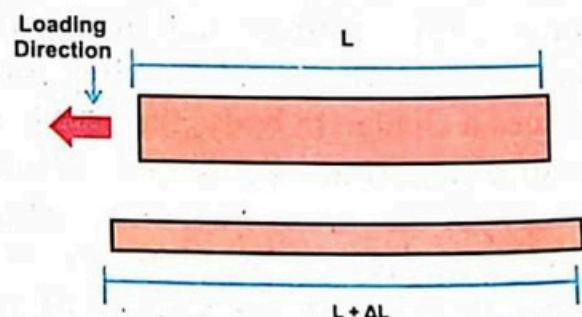

Fig.16.7(a) Longitudinal strain
If a change occurs in the length of body then the ratio of change in length ( $\Delta L$ ) to the original length (L) is called longitudinal strain, it is caused by longitudinal stress (tensile stress/compressive stress) as shown in Fig.16.7(a), thus
Similarly, the ratio of change of volume of a body to its original volume is called **volumetric strain**, as shown in Fig.16.7(b). Mathematically, it is explained as;